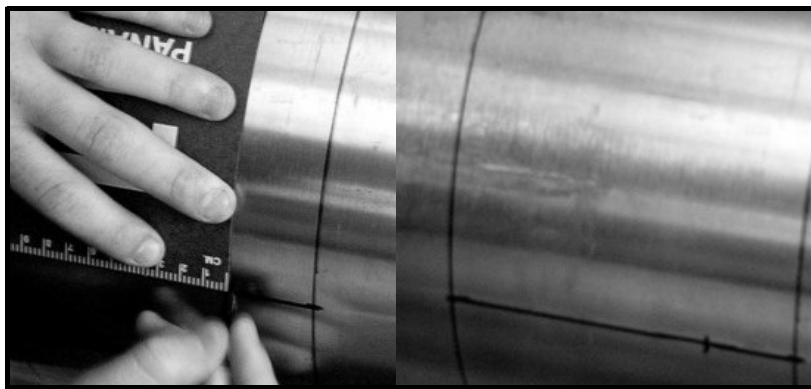

Figure 1-18: Measuring and Marking Spacing
1. Measure the spacing from the zero point (the point of circumferential origin). Mark the spacing point with a crosshair on the opposite side of the pipe, 180° from the zero point (as shown in Figure 1-18 below).